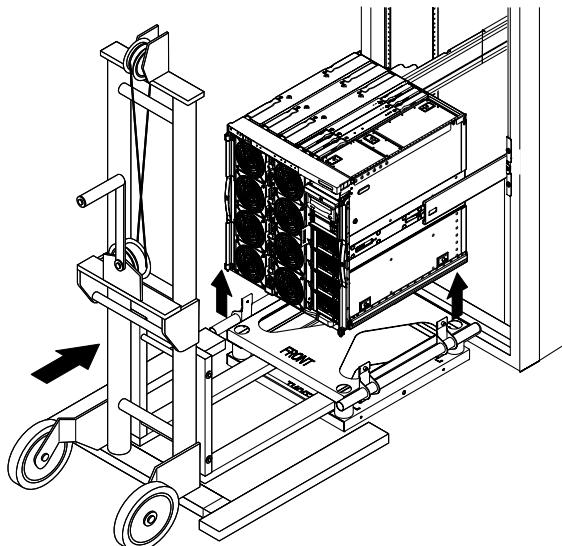

FIGURE 4 Positioning the Shipping Cradle
Note – When you choose a method to move the system, keep in mind that the system weighs 240 to 290 pounds (109 to 132 kg). If possible, use a mechanical lifting device such as the one shown in FIGURE 4.
- 10. Raise the shipping cradle up to the system (FIGURE 4). Orient the front of the shipping cradle with the front of the system.**